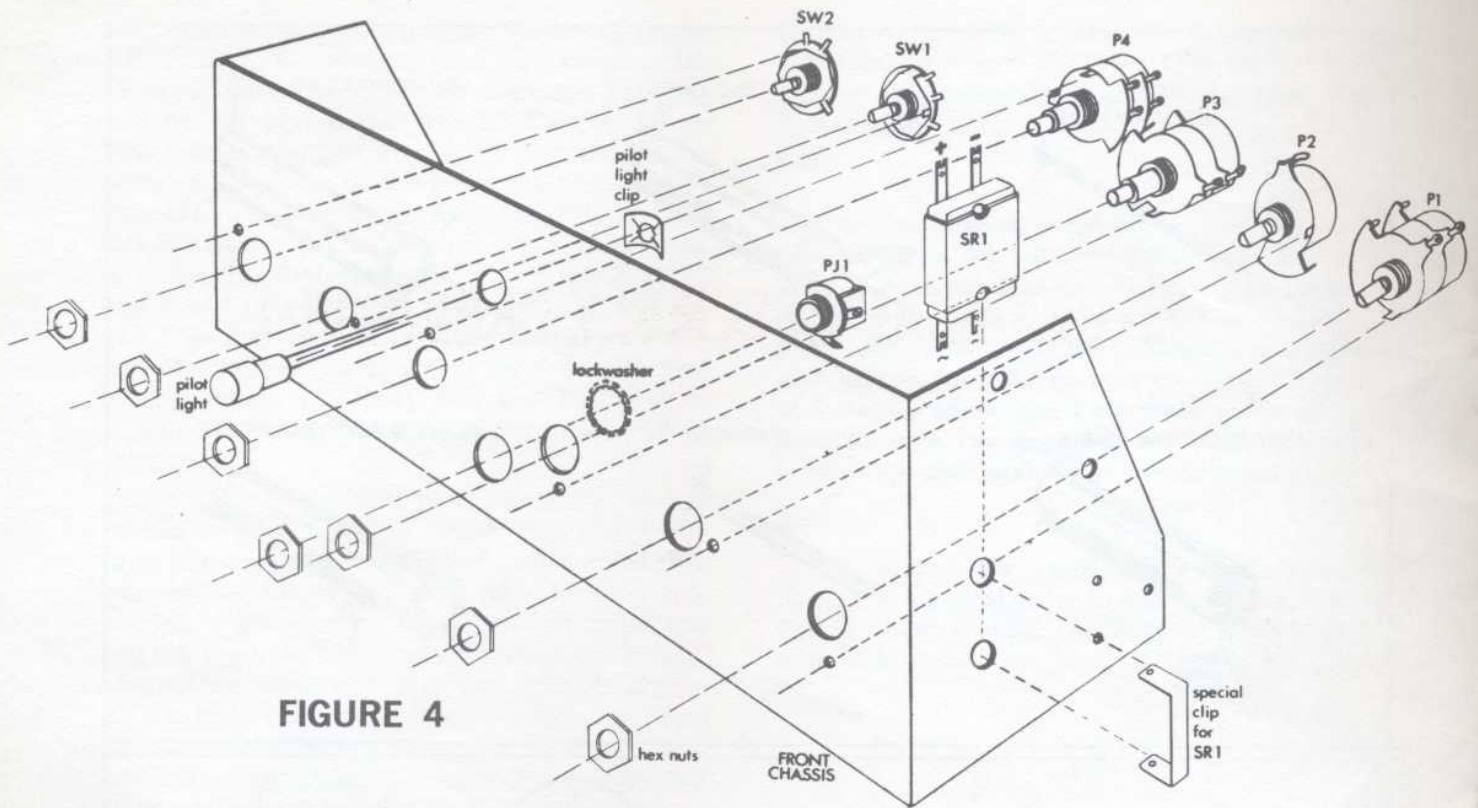

FIGURE 4
Assemble the following parts to the front chassis as shown in (Figure 4). The numbers in parenthesis are the identifying numbers and are stamped on the parts, with the exception of items 1 and 2, which have no identifying numbers. **DO NOT OVER TIGHTEN THE BASS HEX NUTS.**
4. <input type="checkbox"/> P1 (RCVD-500KT-3FSW)	Insert as shown in (Figure 4). Align the locating lug with the small hole.